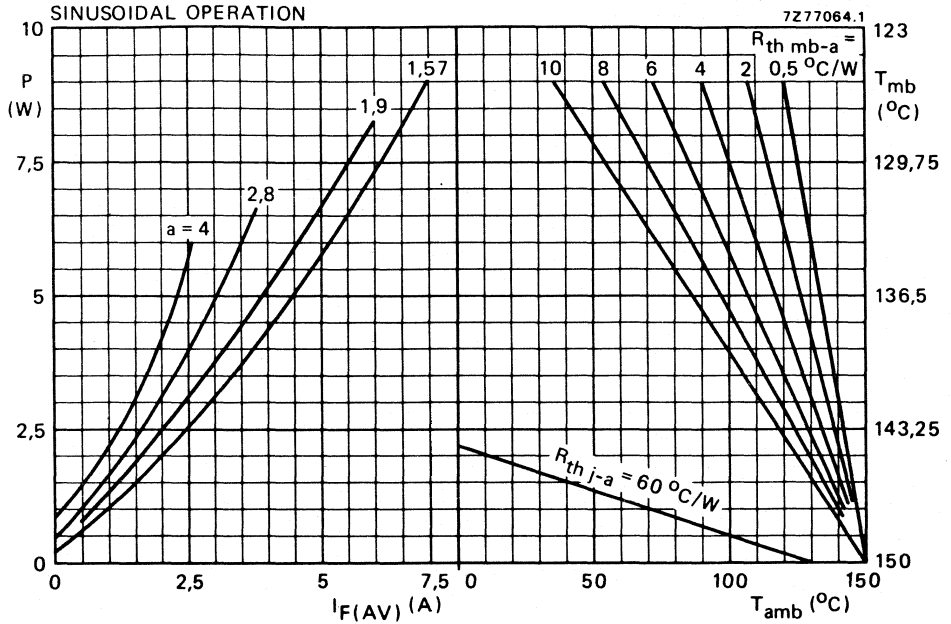

Fig. 5 The right-hand part shows the interrelationship between the power (derived from the left-hand part) and the maximum permissible temperatures.
- The method of using Figs 5 and 6 is as follows: